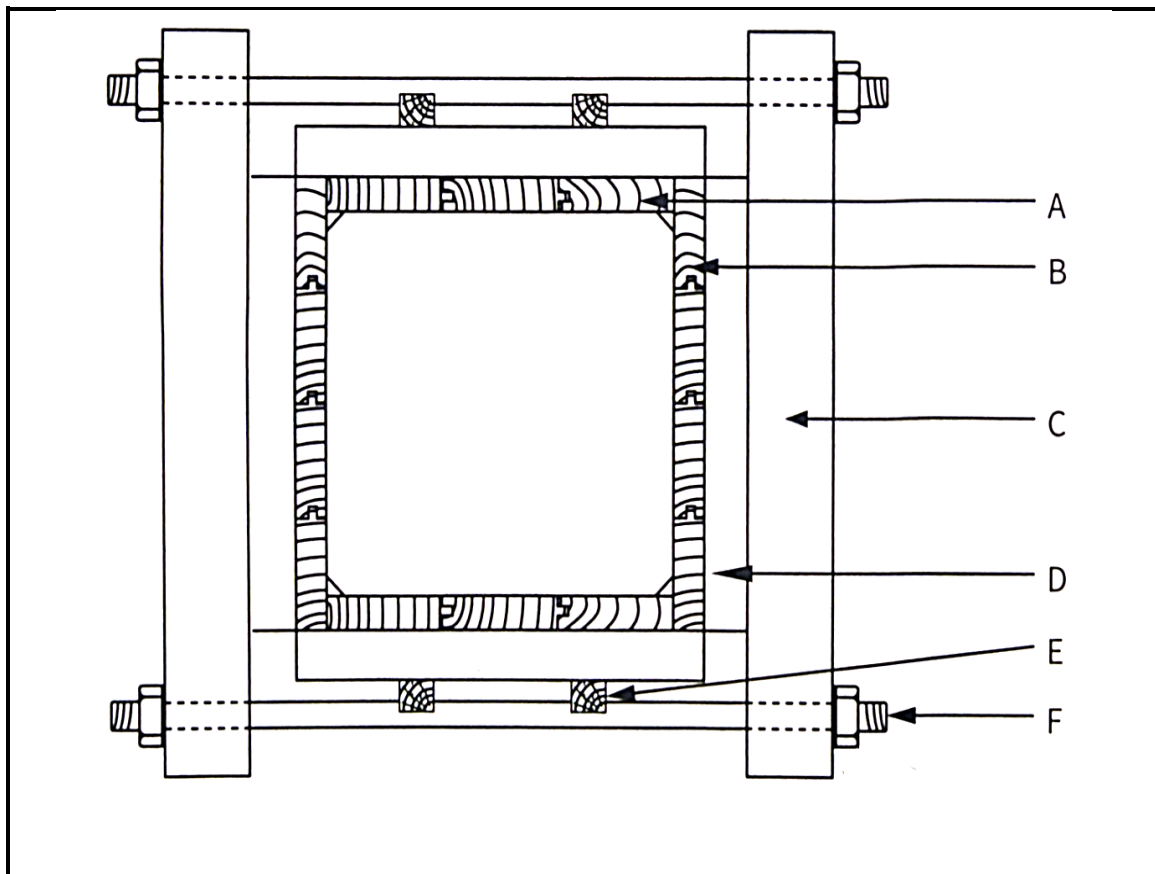

FIGURE 5.6
5.6 FIGURE 5.6 below shows a horizontal section of a square column.
Study FIGURE 5.6 and identify parts **A–F**. Write only the answer next to the letters (A–F) in the ANSWER BOOK.